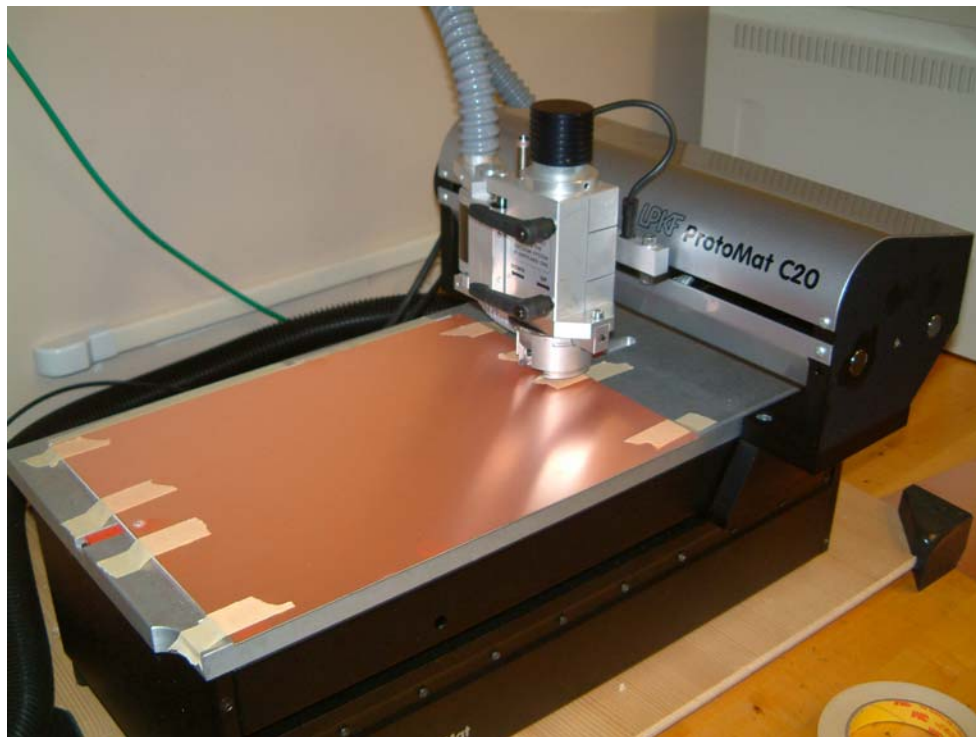

Figure 34: Drill the second marking whole.
7. Move the drill head **287 mm** to the right using the manual displacement button. The head will now be positioned exactly over the second alignment post, as shown in Figure 34.